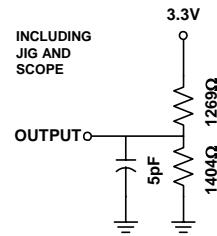

FIGURE 1B
5. Transition is measured $\pm 500mV$ from steady state with $CL=5pF$ as shown in Figure 1B. The parameter is guaranteed but not 100% tested.
10. Transition is measured 500mV from steady state with C_L = 5pF as shown in Figure 1B. The parameter is guaranteed but not 100% tested.